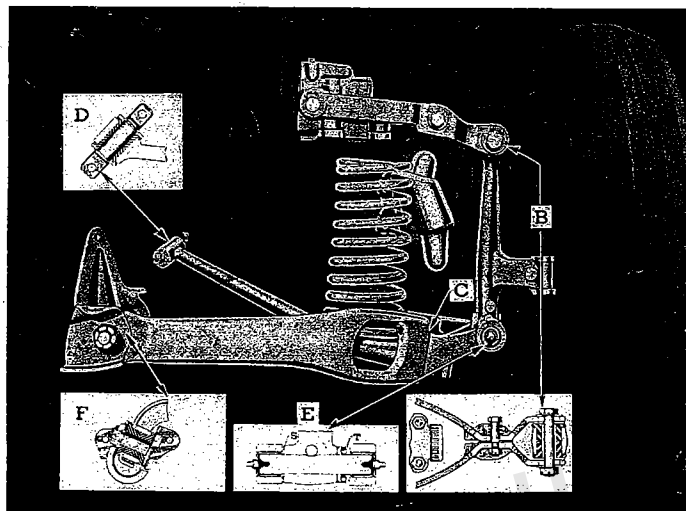

Fig. 51—Rear View of Front Suspension System Used on Models 1803 and 1806. Bushings at "B", "D" and "F" are Rubber
**Front Support Arm Outer Bearings**—These caged type roller bearings "E" differ from those used on models 1703 and 1705 mainly in that one of the two bearings in each assembly **must be renewed** whenever the arm pin or either bearing is removed for any reason. The thrust bearing should be preloaded one to six pounds by means of shims "S", Figs. 51 and 53.